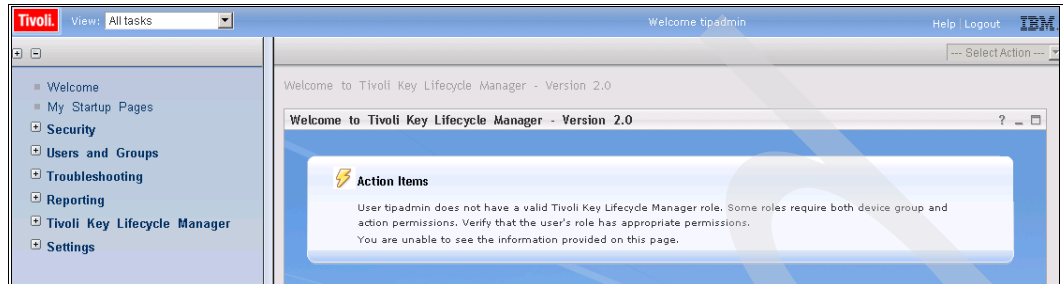

Figure 9-32 TIP welcome with action items
2. The Welcome panel shows any action items that are required (Figure 9-32).